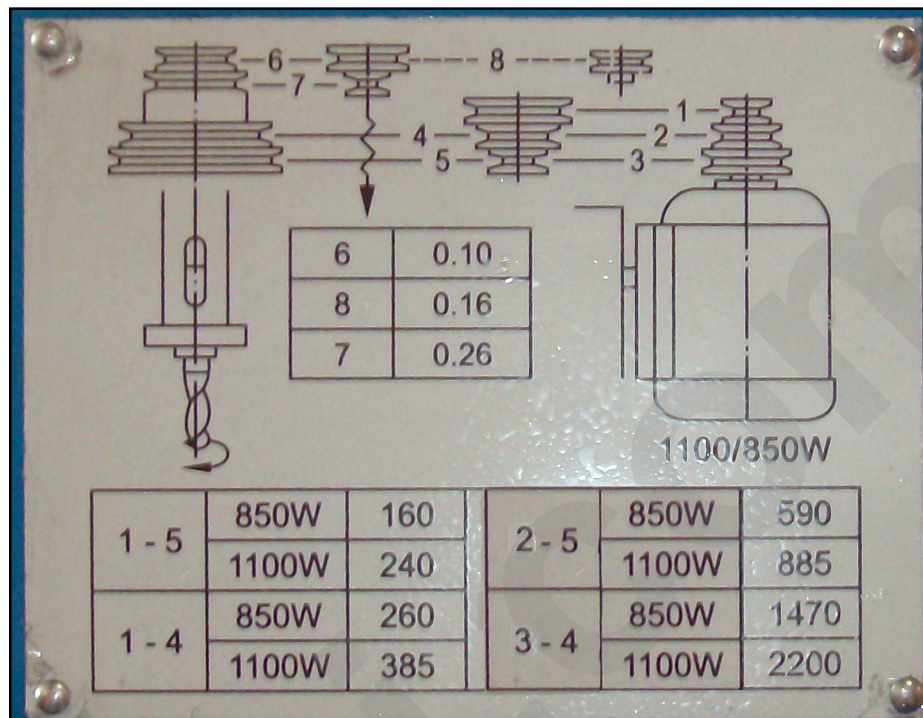

Figure 4 - Spindle speed change labels.
The shield of the pulley compartment (on the right hand side of the machine) carries labels that indicate the possible spindle rotation speeds and the corresponding belt-and-pulley configurations for achieving each of them (figure 4).
7. Set the desired speed by changing the position of the belts according to the indications shown on the spindle speed label attached to the machine (figure 4/B).
9. Tighten the bolts (1) which lock the central pulley, by using a wrench.